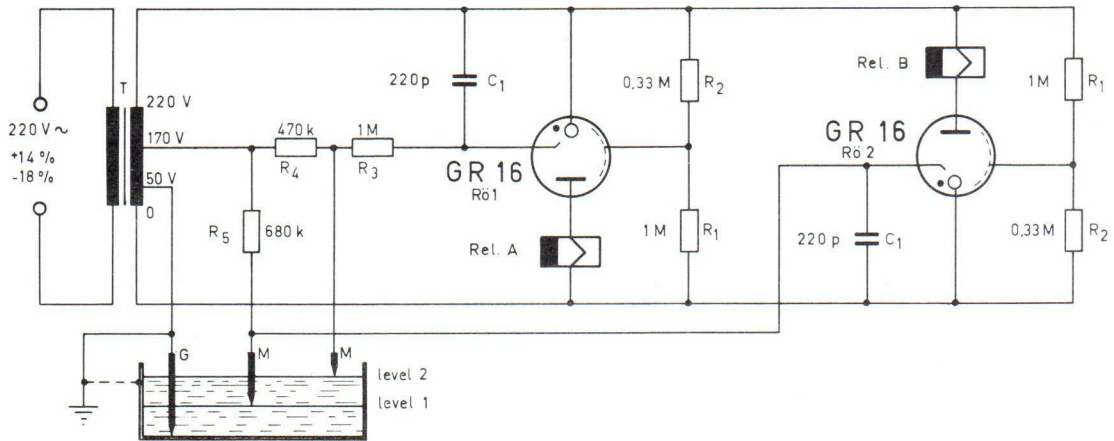

Fig. 5
3.3.1 Baissed-off circuit, Fig. 5
The circuit operates in a manner exactly opposite to that of Fig. 5.